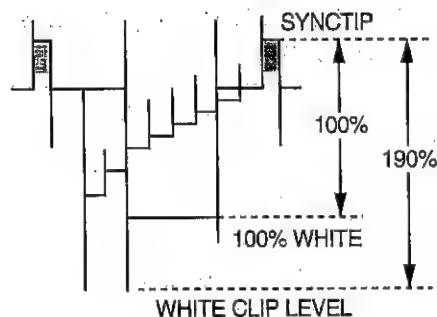

Figure 5-4.
1. Connect an oscilloscope to pin (48) of IC401 and GND.
3. Make sure that the overshoot of the video signal is clipped at 190% as shown in Figure 5-4.